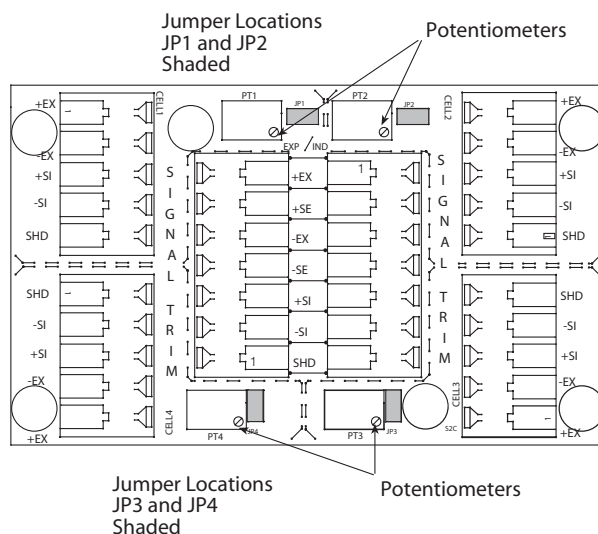

Figure 2-9. Potentiometer Location
2. Make sure jumpers are in place to enable trimming of the cells corresponding to each load cell. See Figure 2-9 for the location of jumpers JP1, JP2, JP3 and JP4. Note that you will need to remove jumpers for any unused cells.